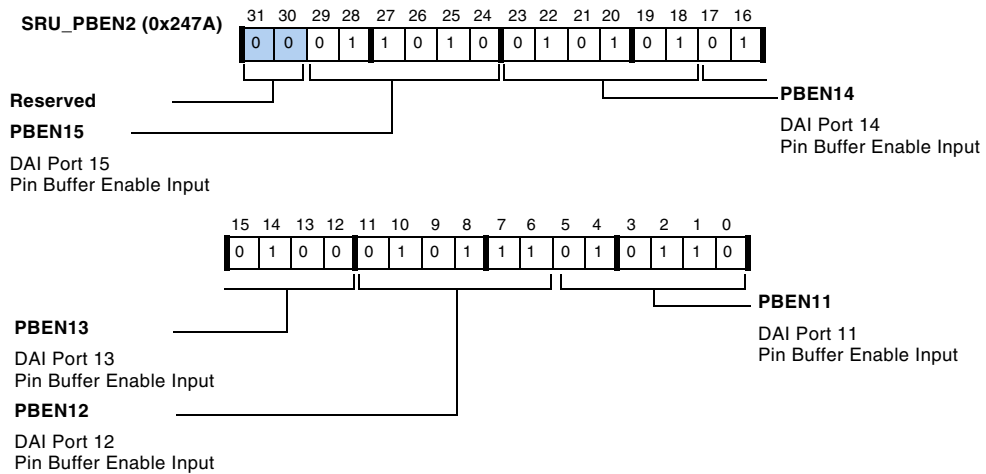

Figure A-54. SRU\_PBEN2
- SRU\_PBEN2, described in Figure A-54